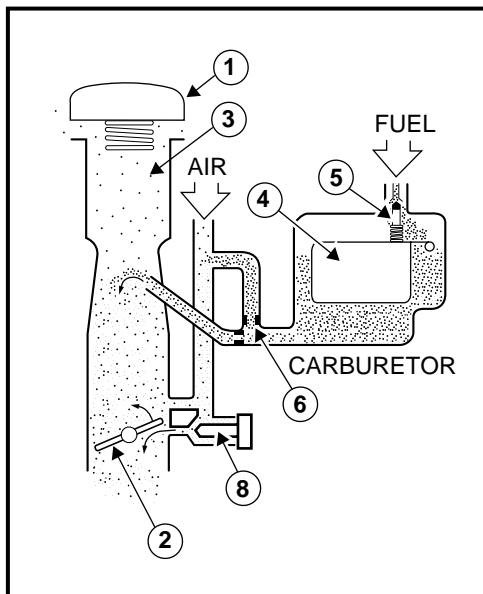

Figure 14-4 Choke System
The choke system aids in starting the engine in cold weather. When starting a cold engine, the spring-loaded choke cover (1) (**Figure 14-4, Page 14-4**) is pushed in by hand. This restricts the air flow to the venturi, causing a very high vacuum that draws fuel into the venturi at a high rate and thus creates a “fuel rich” mixture. The choke cover is held in until the engine starts, and then released.
Fuel is supplied to the carburetor float chamber by an external impulse pump that draws fuel from the fuel tank and through the fuel filters. The fuel then passes through the inlet valve (5) (**Figure 14-4, Page 14-4**) and into the float bowl. The fuel entering the bowl causes the float (4) (**Figure 14-4, Page 14-4**) to rise until it shuts off the inlet valve, preventing the fuel from exceeding a level predetermined by the float level setting.